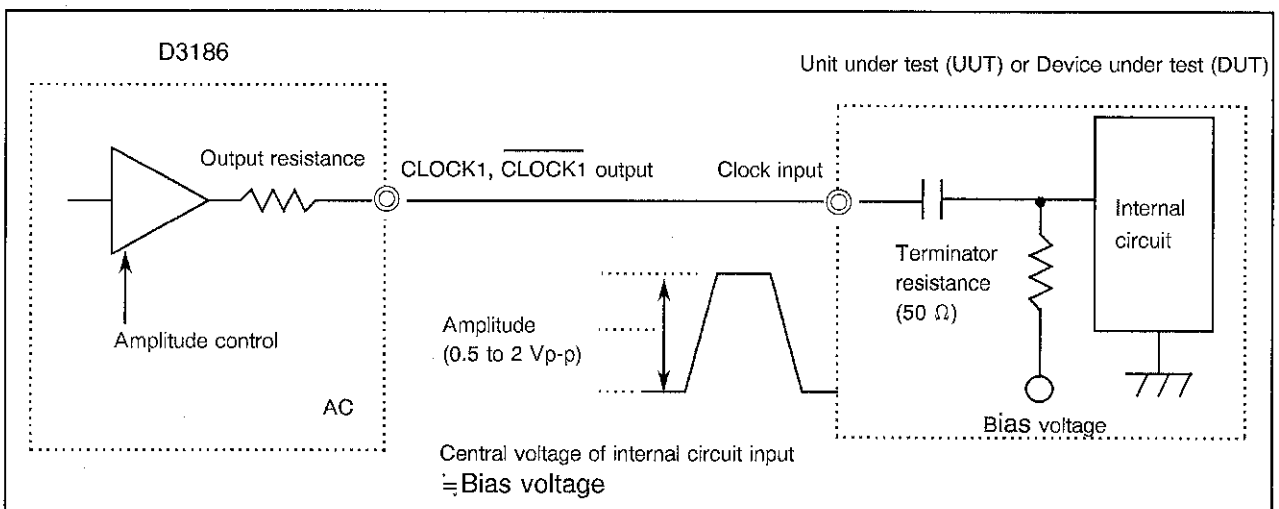

Figure 4-6 CLOCK1 and CLOCK1 Output, AC Connection
- (2) When the UUT/DUT clock input connection is AC:
- (a) To use variable UUT/DUT clock input amplitude (see Figure 4-6.):